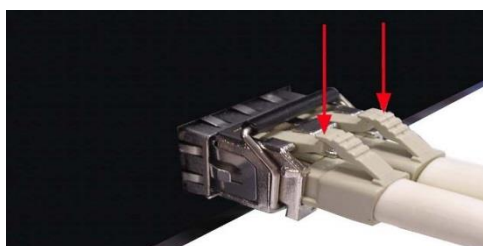

Figure 2.10 - Remove LC Connector
1. Press the upper side of the LC connector from the transceiver and pull it out to release as shown below in *Figure 2.10*.